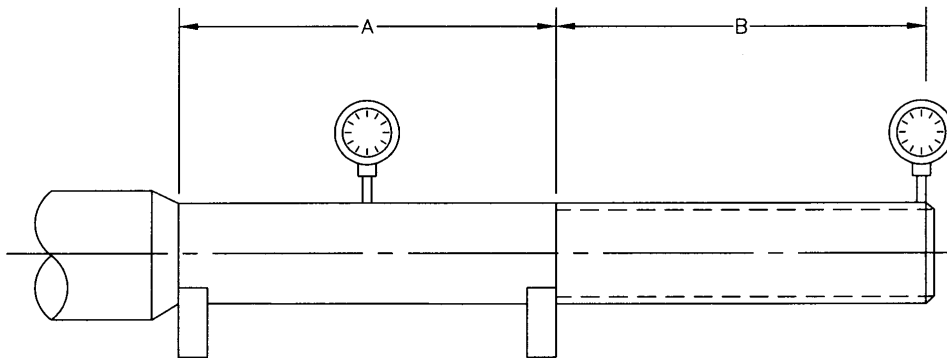

Figure 20
- b) Inspect the stem for straightness using the set-up shown in Fig. 20 and measuring the total indicator runout (TIR) at three locations in both the A and B areas. The TIR should not exceed 0.0005 in/ inch of length of unthreaded area or 0.002 in/inch of length of the threaded area.